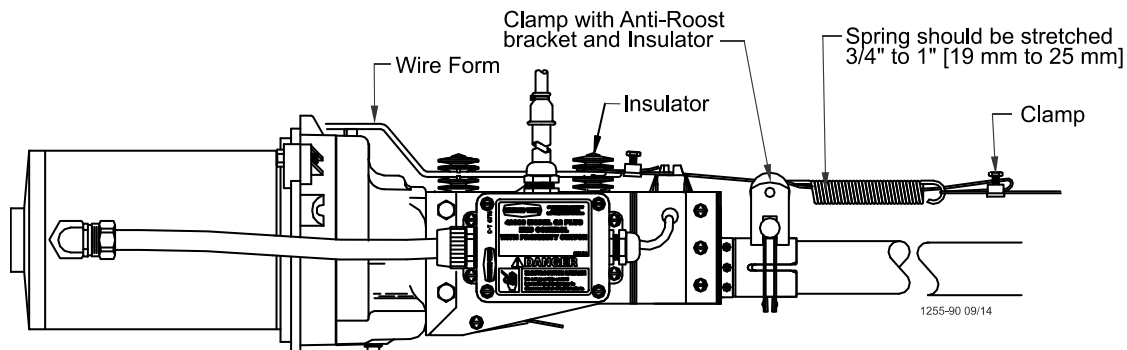

Figure 69. Anti-Roost Installation at the Control Unit
9. At the control unit, after clamping the cable to the spring, cut the cable about 8" to 10" [200 to 250 mm] longer than necessary. Feed the end of the cable through the center of the spring, around the first insulator on the control unit, and clamp the cable using the cable clamp supplied with the control unit. See **Figure 69**.
10. Install the wire form on the control unit insulators. Be sure the guard snaps into the retainers molded into the insulators. See **Figure 69**.